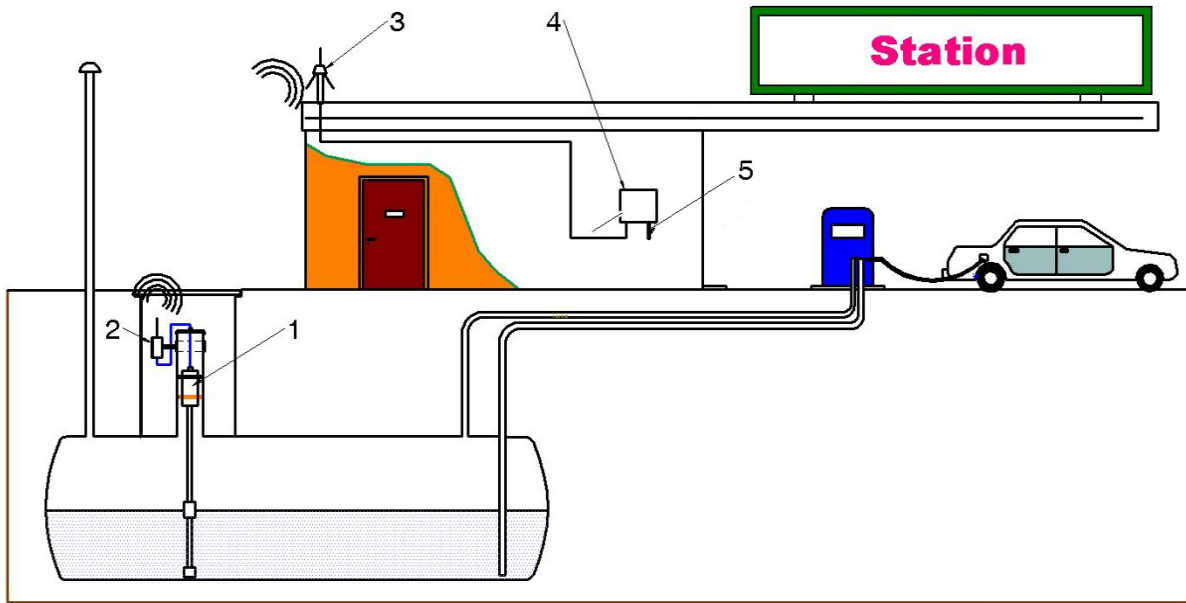

Figure 2 Typical layout of a petrol station
Below the Figure 2 shows a typical petrol station layout. VISY-Stick sensor (1) is fitted inside the tank. The sensor is linked to VISY-RFT-L transmitting module (2) and receives its power from an intrinsically safe battery inside the VISY-RFT-L transmitting module. The transmitting module generates radio signals, represented in the diagram by a series of arcs. These radio signals are received by an antenna (3) and are forwarded to VISY-Command RF (4) along a 50-ohm coaxial cable. For viewing, the evaluated data can be forwarded to other peripheral equipment (VISY-View, POS, BOS, etc.).